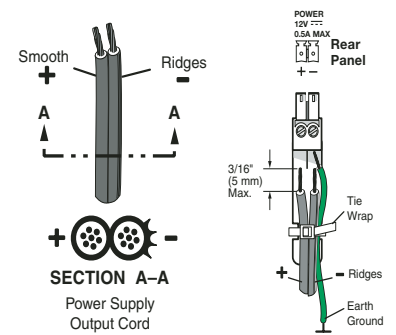

Figure 5. Power Wiring and Grounding
Wire the 2-pole captive screw connectors as shown in figure 5. Plug them into the Power connectors (①) of the MTPs. The LED indicator on each MTP should be on when receiving power.
To prevent malfunctions or product damage, an installer can correctly ground an Extron MTP 15HD RS series product by grounding the power input port. Insert one end of the grounding wire to the negative or ground pin on the power input connector (see figure 5). Tie the other end of the wire to an earth ground.